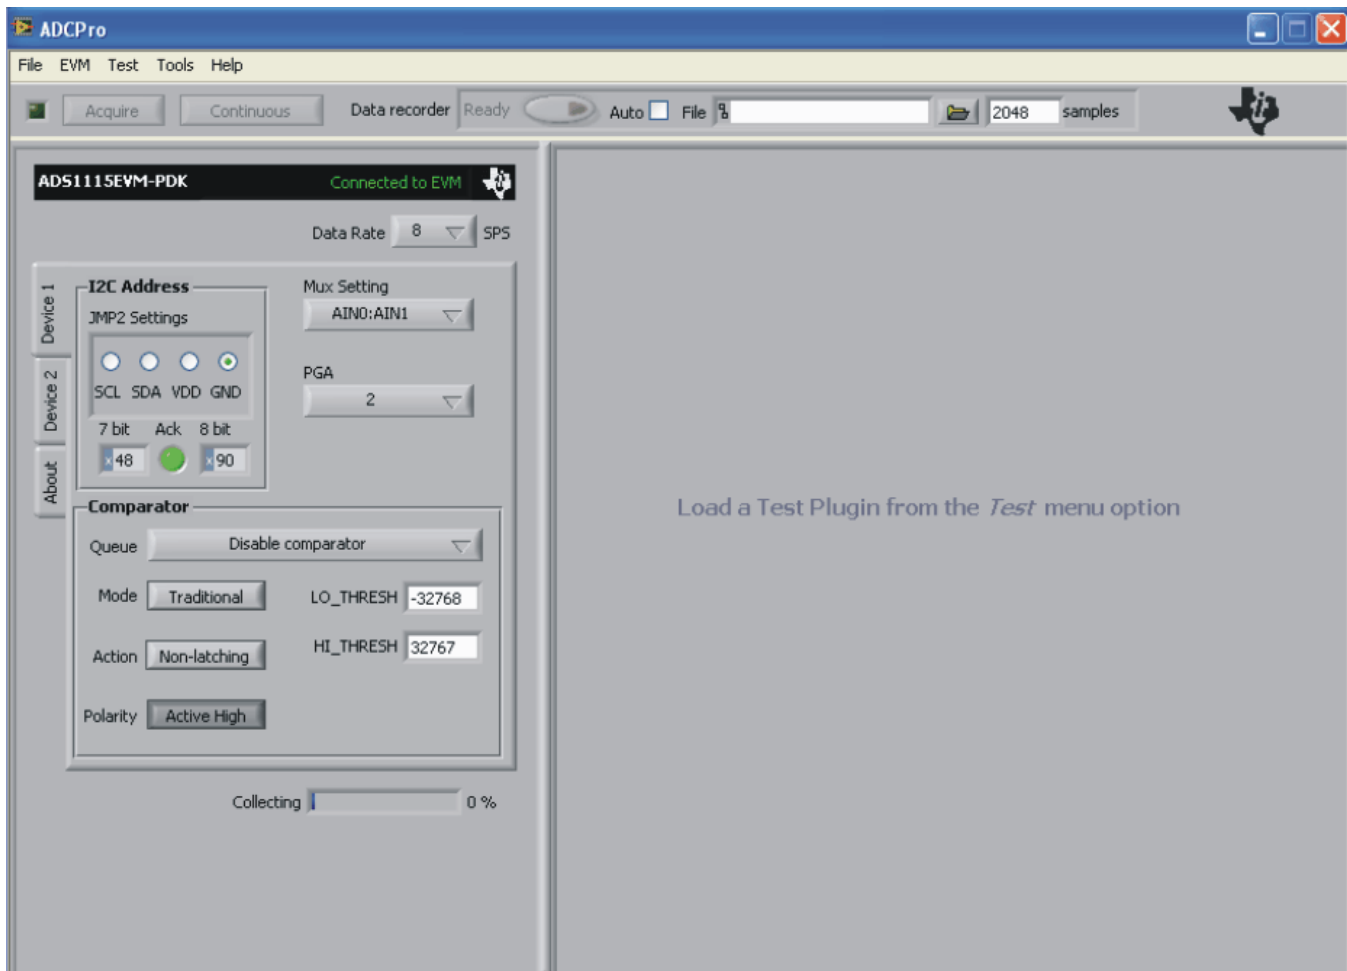

Figure 8. ADS1115EVM-PDK Plug-In Display Window
- Step 2. Select *ADS1115EVM* from the EVM drop-down menu. The ADS1115EVM-PDK plug-in appears in the left pane, as Figure 8 shows.